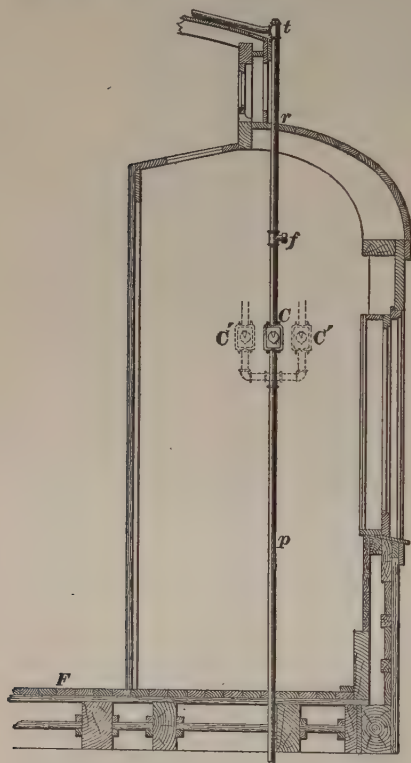
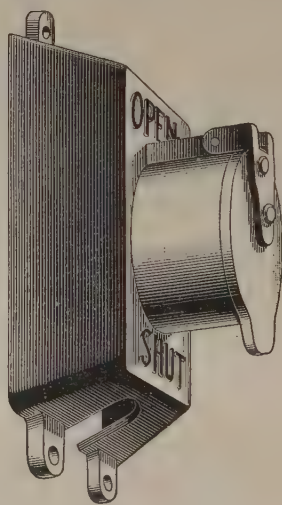

FIG. 22
FIG. 23
9. In Fig. 9 (a) is shown an outside view of the fitting known as the **main cock**, one of which is provided on each car. Its position in the car was shown in Fig. 1 at *C* (see also Fig. 22). This cock is boxed in and is provided with a key (b), by which the brakeman can turn the gas on and off from that particular car. On postal cars, the cock shown at *c* is used, the handle being fixed, not detachable.
10. **Double Pipe Line.**—It is sometimes advisable, in the case of private cars and also sleeping and dining cars, to run two lines of roof pipes, using two main cocks (see dotted parts *C'*, *C'* in Fig. 22). The lamps in the main body of the car, and also those in the smoking and dining rooms, are connected to one of the pipe lines, while the passageway and toilet brackets and the end lamps and vestibule lamps are connected to the other line. This enables the brakeman, by means of the main cock, to control the lamps on one line independent of the lamps on the other line.
merely made tight with lead paint. A **T** and plug are used for making the upward turn at *t*. At a point *C* about 5 feet above the floor *F*, Fig. 22, is placed the main cock, closed in with the cover shown in Fig. 23. This cock is so located that its *indicator* and the letter *A* are on the right-hand side, as shown in Fig. 9. At the point *r* where the pipe
passes through the roof, Fig. 22, the pipe should be tinned before being put up permanently, and then soldered to the tin roof when in place. The connection between the vertical pipe *p* and
It is sometimes thought desirable to have two lines of piping on the roof, in which case two main cocks, arranged as shown dotted at *C'*, *C'*, replace the single cock shown in full lines at *C*, Fig. 22.